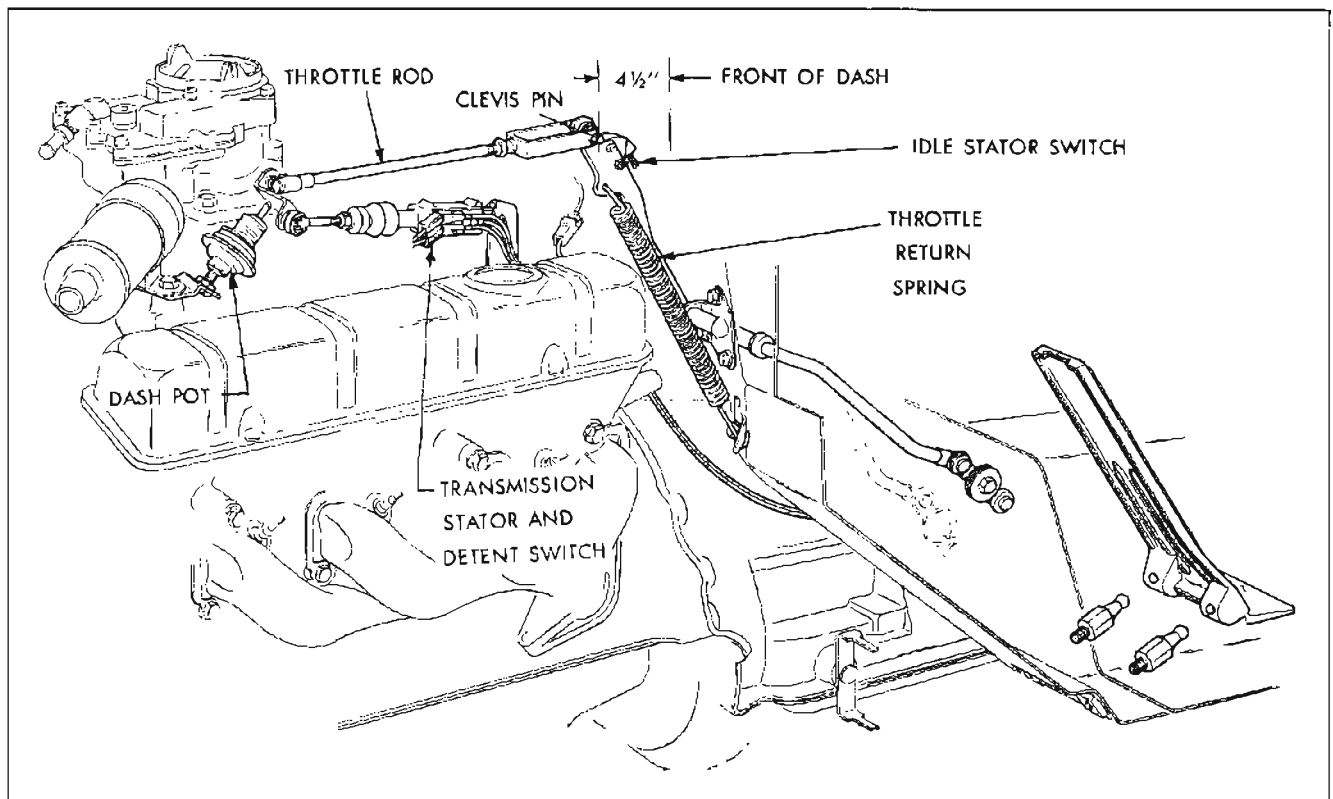

Figure 3-20—Throttle Linkage Adjustment
2. Adjust engine idle speed and mixture. See paragraph 3-8. With throttle linkage in hot curb idle position, measurement from throttle rod clevis pin horizontally to dash must be 4-1/2 inches \pm 1/4 inch. If measurement is off, shorten or lengthen throttle operating rod as required to correct. See Figure 3-20.